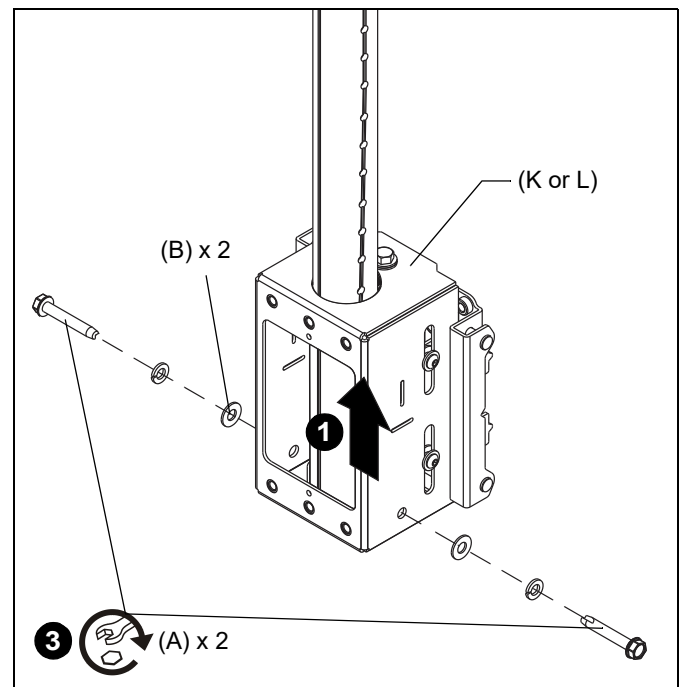

Figure 3
- Slide ceiling head (K or L) up from below onto installed column (not included). (See Figure 3)
- Install two 5/16" x 2" self-tapping screws (A) through two 5/16" lock washers (C), two friction washers (B), sides of ceiling head (K or L), and into installed column. (See Figure 3)